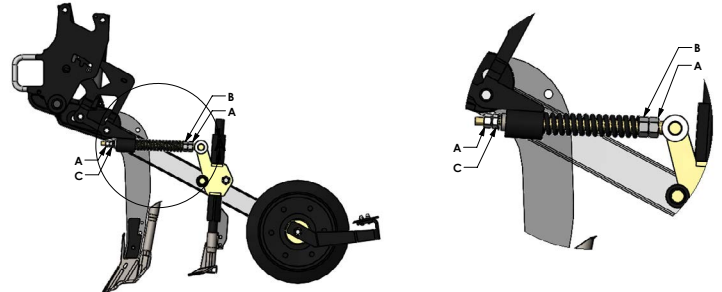

FIGURE 1
- To set the angle correctly, the seed shank must be vertical ( $\pm 2$  degrees is acceptable) with the drill sitting level and the openers and packers off the ground. To adjust the angle, loosen jam nuts A (Figure 1) then turn nuts B and C equal amounts (so the trip force doesn't change) until the seed shank is vertical. Looking at Figures 2 and 3, it is evident why the angle is so critical. When the lower end of the seed tube is angled back (Figure 2), the seed placement will be compromised and more soil throw will occur. If the opener is running heel down as shown in Figure 3, premature wear and plugging may occur. Using the opener with it at the wrong angle will void opener warranty.